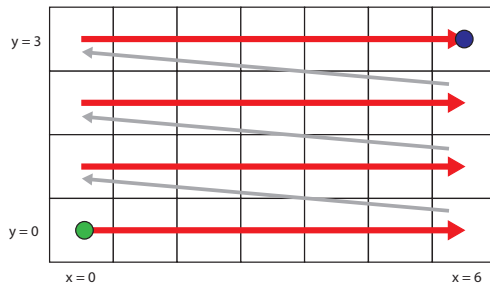

Figure 5.1: The ‘standard’ mode.
The most basic mode is the ‘standard’ mode. Fig. 5.1 shows how the standard mode measures the map $z(x, y)$. In this example, we have chosen for $x = np.linspace(0, 6, 7)$ and $y = np.linspace(0, 3, 4)$. We start at the green dot and measure $z(0, 0)$. Then, we follow the red line, which denotes a *sweep* being performed. Hence, we measure $z(1, 0), z(2, 0), \dots, z(6, 0)$. Then, we *move* x back to its first value (0) and *move* y to its second value (1). This is denoted by the grey arrow. Now, we sweep x for $y = 1$, move, sweep, etc., until we end up at the blue dot.